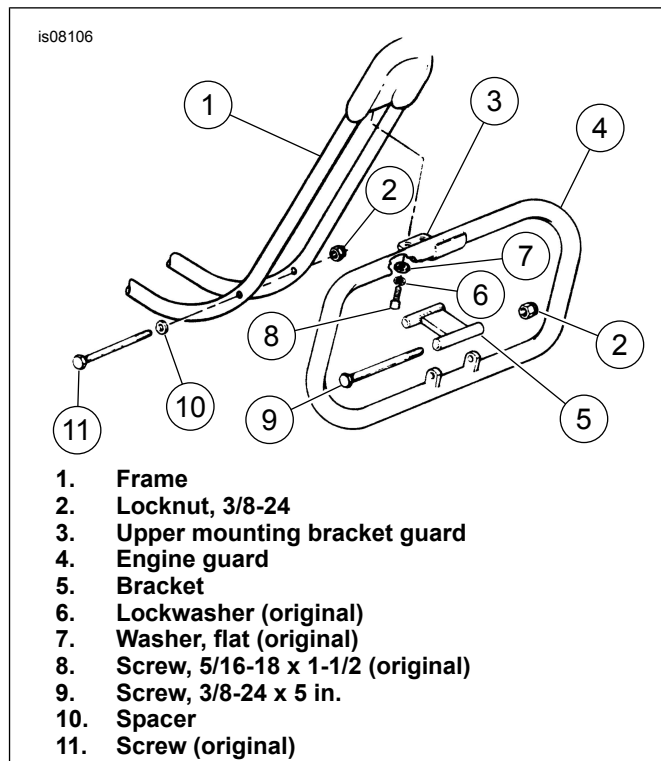

Figure 3. Installation (Generator Models)
1. See Figure 3. Remove screws (8), lockwashers (6), and flat washers (6) from underside of steering head. Discard original screws (7). Retain washers for reassembly. Do not remove shim washers between frame and motor bracket.
2. Remove screw (11), spacer (10), and nut (2) at frame downtubes.
3. Attach bracket (5), Part number 49014-85, to engine guard (4) using screw (9) and locknut (2). Tighten screw (9) to 33 ft-lbs (44.7 Nm).
4. Position engine guard (3) upper mounting bracket under steering head, with bracket (4) aligned with holes in frame downtube. Place original lockwashers (6) and flat washers (7) on screws (8). Insert screws (8) through upper engine guard bracket, through upper engine mount, and thread into tapped holes in steering head.
5. Insert original screw (11) through frame downtubes and bracket (5). Place new locknut (2) on screw (11) and tighten to 33 ft-lbs (44.7 Nm).
6. Tighten screws (8) to 19 ft-lbs (25.7 Nm).